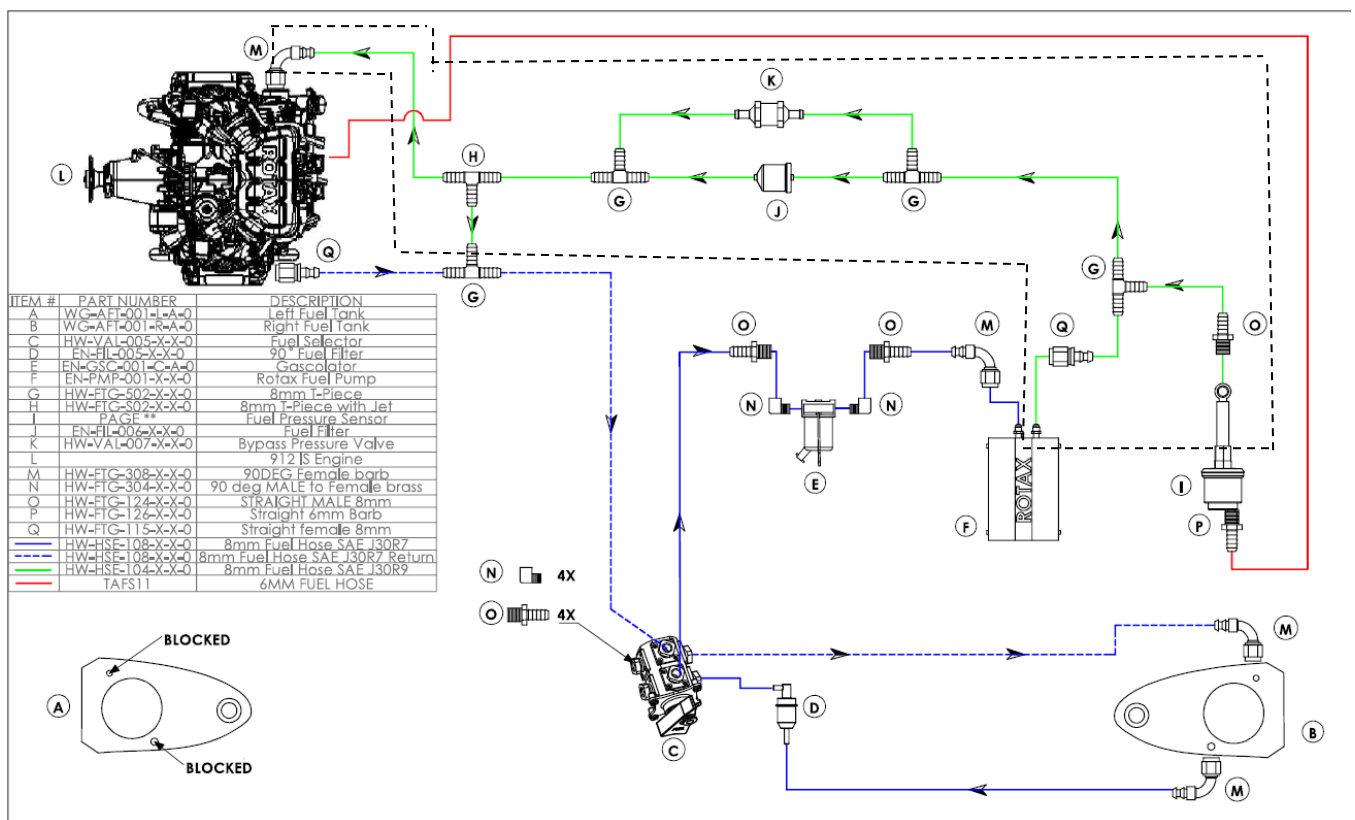
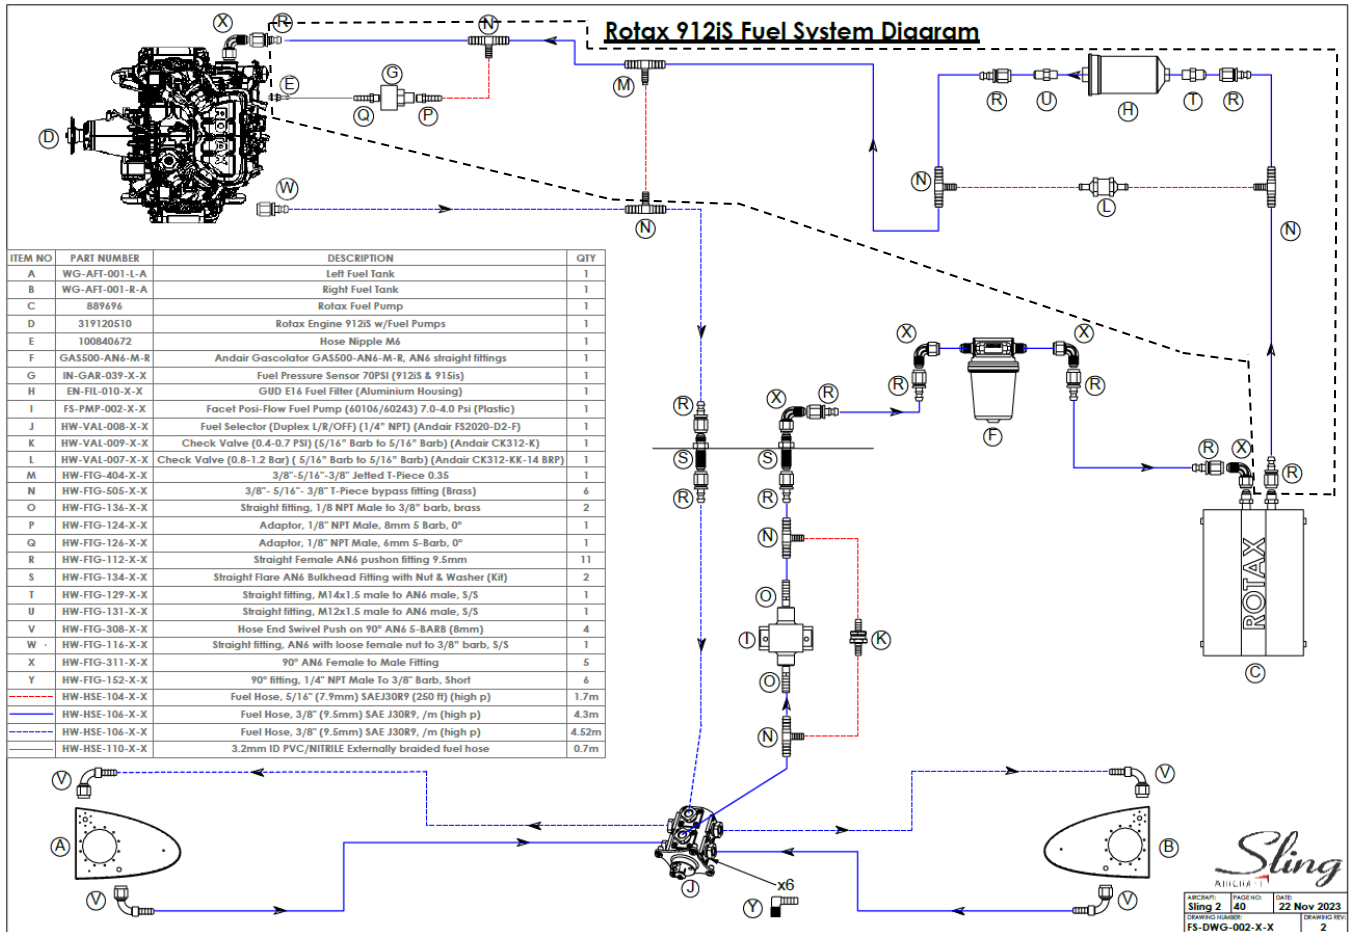

Figure 4: 912 iS Fuel System Diagram
Figure 5: 912 iS Fuel System Diagram
¹ Only required if you have the fuel system layout that corresponds to Figure 4.
There are two fuel system configurations applicable to the Sling 2 and Sling LSA. These can be seen in Figure 4 and Figure 5.
With reference to Figure 4 and Figure 5, all the fuel lines bounded within the dashed line “----” must be inspected and replaced should they be of the sub-standard type of fuel hose. It must be replaced with the correct fuel hose as described in Section 2.
- Step 2: The heat sleeve around the fuel hose will be fixed in place using either locking wire or metal cable ties. Once the cowling has been removed, used the side cutters to remove these so that the heat sleeve can be moved to inspect the hose underneath. Refer to Figure 6 for an example of how the heat sleeve is attached using the cable ties. Please note, Figure 6 is just for reference purposes, all the fuel lines (as shown in Figure 4 and Figure 5.) must be checked.